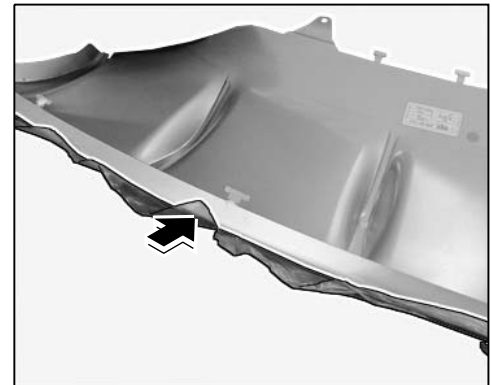

Figure 2
- 2.3 Pull film off the edges of the stainless steel rear trim ⇒ *Figure 2 -arrow-*.